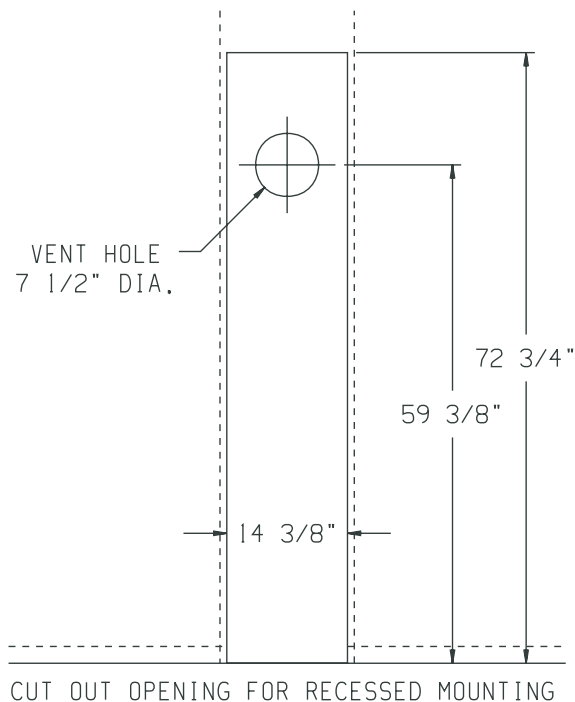
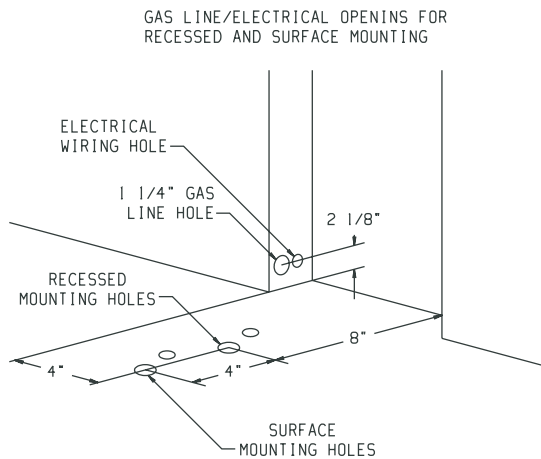

Figure 5
Figure 7
The furnace is to be located on an outside wall. Locate wall studs so that wall opening will be located between wall studs. The furnace is 14 1/8" in width and can be recessed between standard 16" on center wall studs. The wall opening required as shown in Figure 5 is a diameter of 7 1/2".
A template is provided in furnace carton for positioning furnace on the wall. Also, refer to Figure 5 and Figure 7 for positioning the furnace on wall and for locating gas line connection.
Refer to Figure 5 for the location of the 7 1/2" diameter wall opening for the furnace. After the wall opening has been located and cut, position flue outlet on furnace in center of wall opening. Insert tubes through wall opening. When attaching furnace to the wall remove that portion of baseboard and molding on the wall which is behind the furnace. Attach furnace to wall, at the outer casing top, with two (2) plastic expansion anchors provided and to floor, at the outer casing bottom, with two (2) 10 x 1 1/2" screws provided.